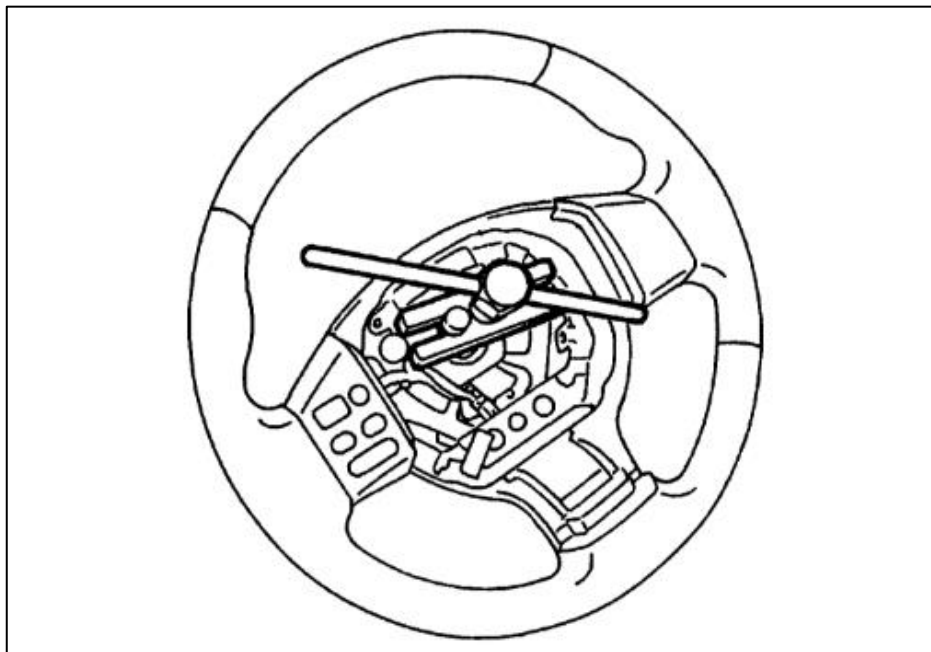

Figure 5
11. Using a Steering Wheel Puller, remove the OE Steering Wheel. If you do not have a Steering Wheel Puller, grab the Steering Wheel at the top and bottom, and rock the wheel back and forth to loosen it. Figure 5.